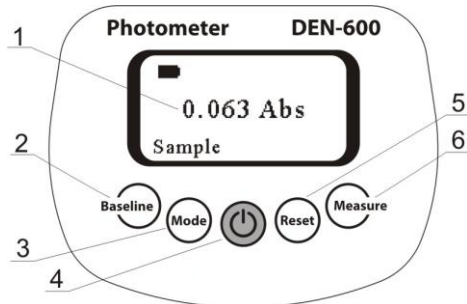
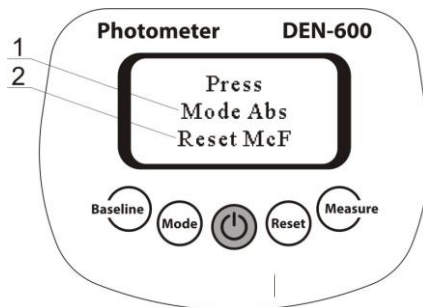

Figure 1. Control panel
Figure 2. Measurement mode selection
- 5.2. Connect the external power supply to electric circuit. Switch on the unit using the green **Power** key (fig. 1/4) on the control panel.
- 5.3. The following indication may be shown on the display (fig. 1/1):
- Two measurement modes for operation are available – McFarland (McF) and Abs (Absorbance) see Figure 2 and 5.3.
- 5.4. **Measurement mode selection (Figure 2).** Select measurement units by pressing **Reset** key for McF (fig. 1/5) and **Mode** key for Abs (fig. 1/3).
- 5.5. **Baseline calibration.** Unit requires initial baseline (only in Abs mode), e.g. depending on the reaction vessel or suspension colour. Insert the reaction vessel with or without suspension into the unit and press the **Baseline** key (fig. 1/2).
- 5.6. **Choosing mode of operation.** Press the **Mode** key (fig. 1/3) to circle through available operation modes, **Sample**, **Save** and **Read**.
- 5.6.1. **Sample mode** - measurement without saving the results. Place the sample in the unit and press the **Measure** key (fig. 1/6). Display shows the measurement result.